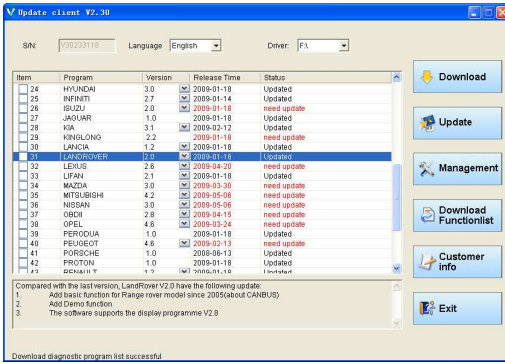

Fig 2-3 Program list screen
(4) After download is finished, all updates available will be displayed as shown in Fig 2-3.
(5) The update client will automatically identify new updates available for your V30.